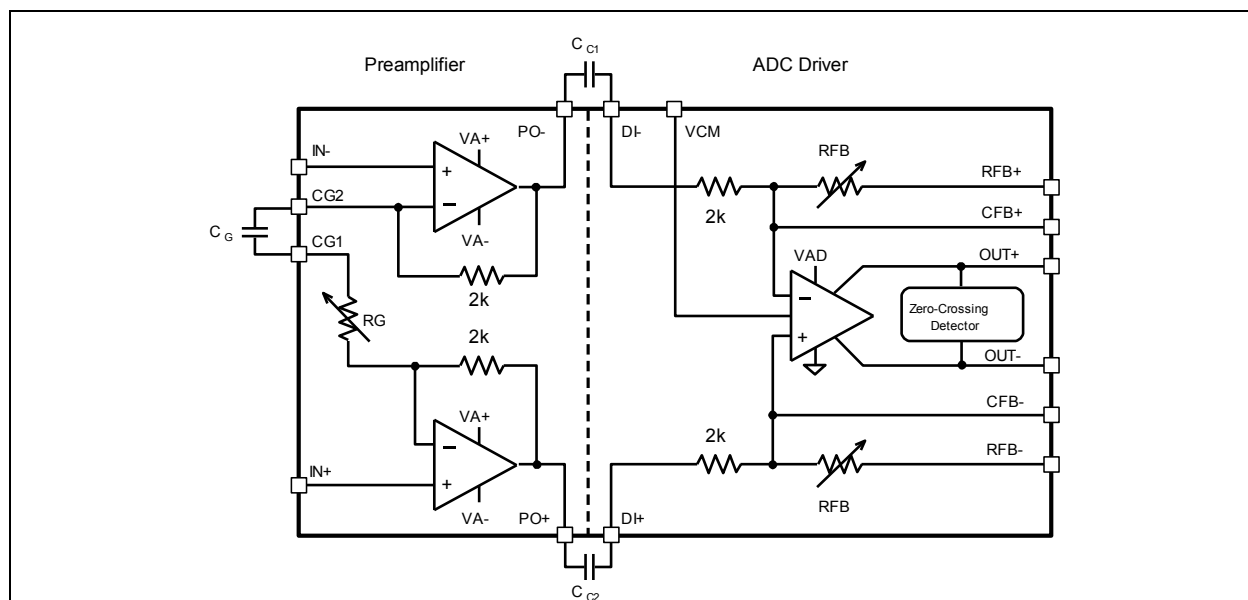

Figure 12. Analog Section Functional Block Diagram
The preamp stage consists of a low-voltage-noise current-feedback differential amplifier with gain programmed by an array of resistors and CMOS switches that makes up RG. See Figure 12 for detail of one of the two channels. The RG resistor/switch array is programmed via the SPI digital control interface. The resulting gain varies from 0 dB to 39 dB in 3 dB steps (in the 6261 and 6263) or 6 dB steps (6266). The preamp feedback resistors have a nominal value of 2 k $\Omega$ . The RG values with the corresponding gains for THAT 6261, 6263 and 6266 are listed in Table 2.
The preamp gain-setting resistor (RC) and ADC driver feedback resistor (RFb) values (Figure 12) with the corresponding gains for THAT 6261, 6263 and 6266 are listed in Table 2.